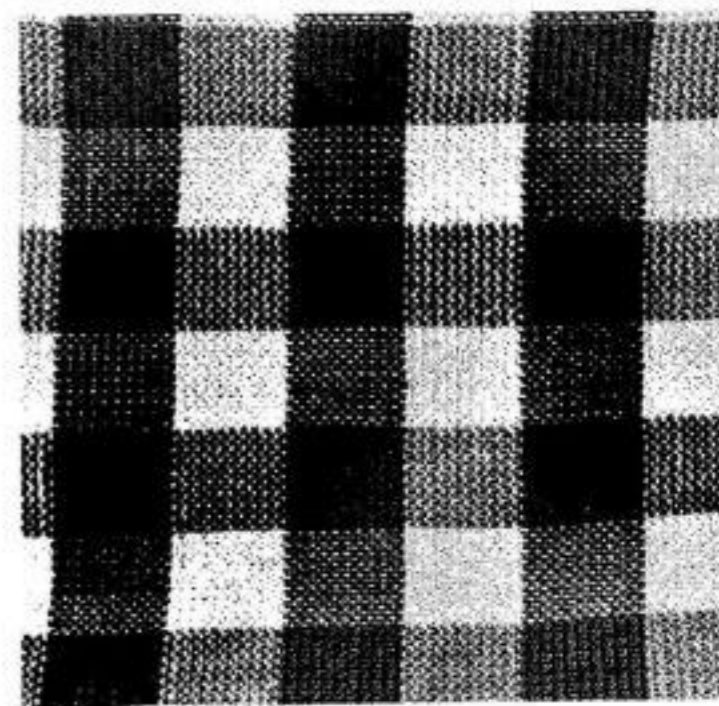

Fig. 23
(V) CHECK PATTERN. —Using Twin Yarn Feeders— (Fig .23)
- (1) Using the yarn in the left hand feeder, set up and cast on as given in Section (II) and arrange alternate needles as given for 'Carpet Effect' knitting in Section (IV)
- (2) Using the same two colours for the Warp as for the Weft, divide the colours between the needles in position "C"—say 5 needles in the 1st. colour then 5 needles in the 2nd. colour and so on across all needles in position "C".
- (3) With the left hand machine feeder still in use, weave a suitable number of rows which you consider will form a nice square. Pitch one to the right for the 1st. row, one to the left for the 2nd. row, one to the right for the 3rd. row and so on until the required number of rows have been knitted. (See Fig .23)
- (4) Change over to the right hand machine feeder and continuing in the same sequence, repeat (3) above.